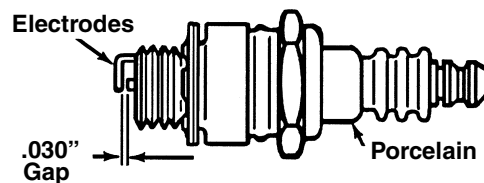

Figure 21
- Replace the spark plug if electrodes are pitted, burned, or the porcelain is cracked. See Figure 21.
- Clean the spark plug and reset the gap to 0.030" at least once a season or every 50 hours of operation. See Figure 21.